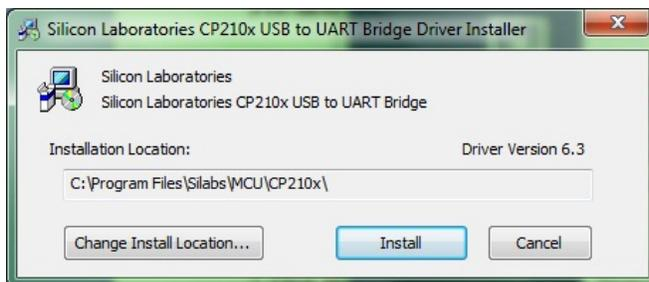

Figure 27 - USB Common Driver Install
7. Click **Install** to continue. Once the installation is complete, the **Installation Successful** message displays (see Figure 27).